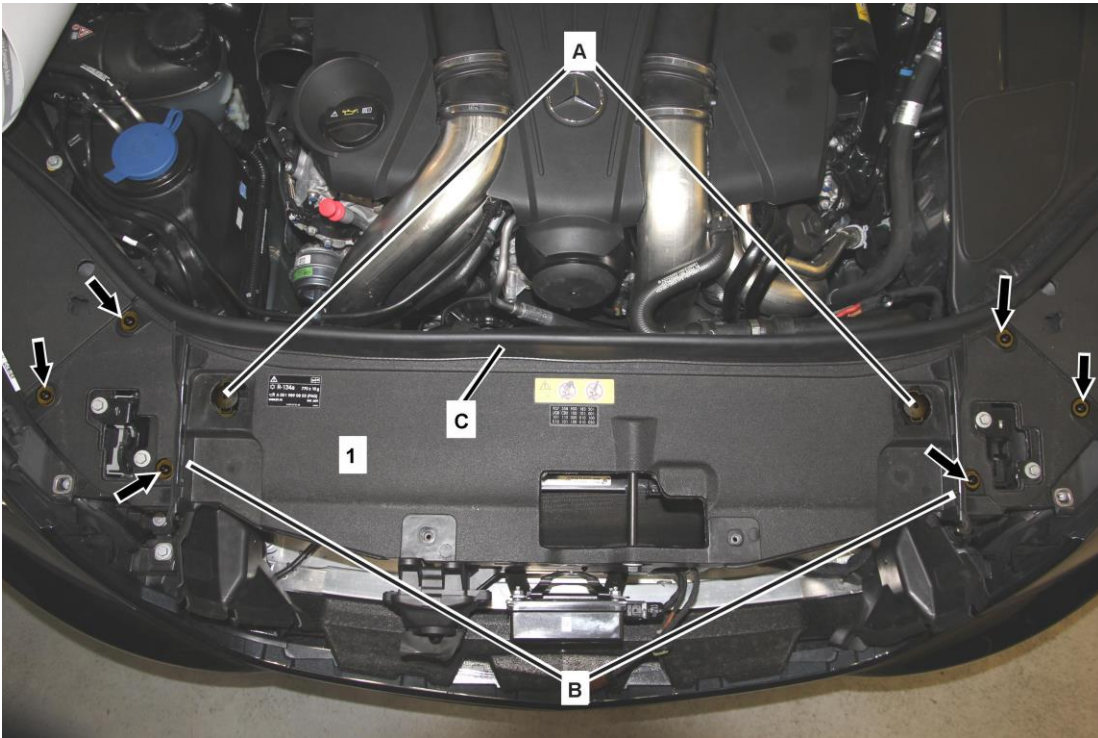

Figure 4
- Remove following components in order to remove radiator support (1, Figure 4):